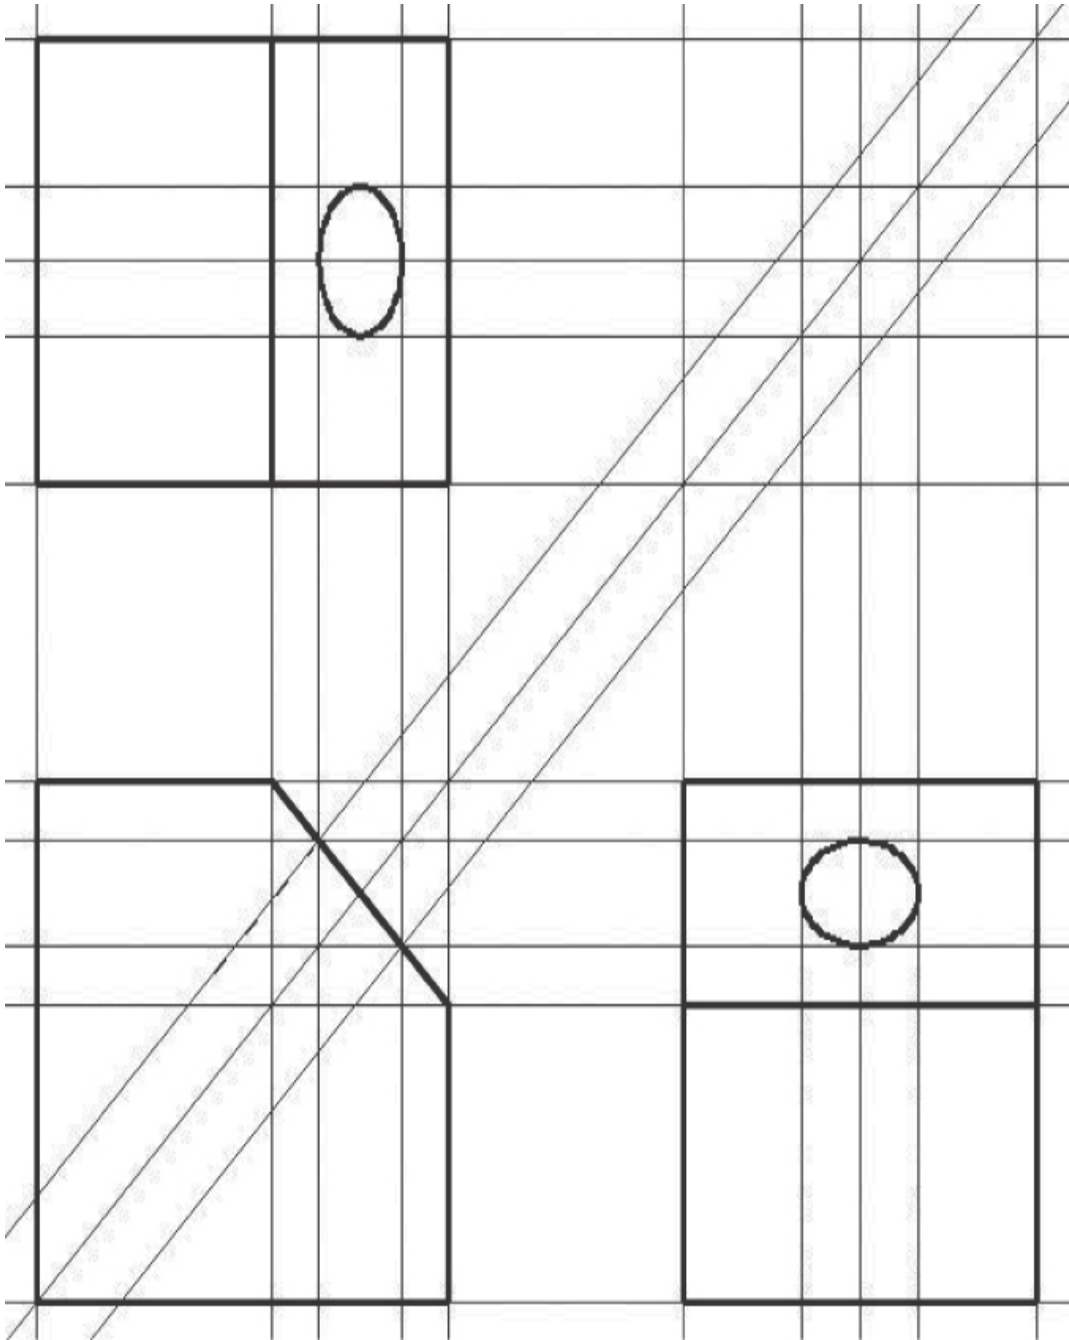

Figure 5-68
- 2 Create the remaining horizontal and vertical construction lines shown in Figure 5-68.
- 3** Use the **Intersection** object snap with the **LINE** and **ELLIPSE** commands to create the final drawing shown in Figure 5-68. Hidden lines are not required.